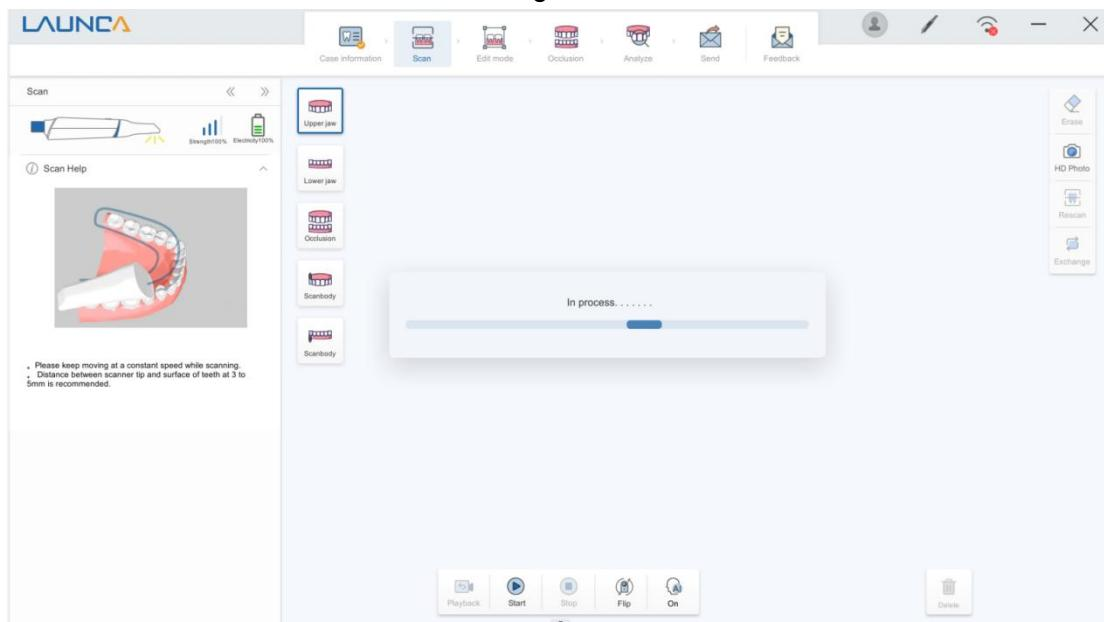
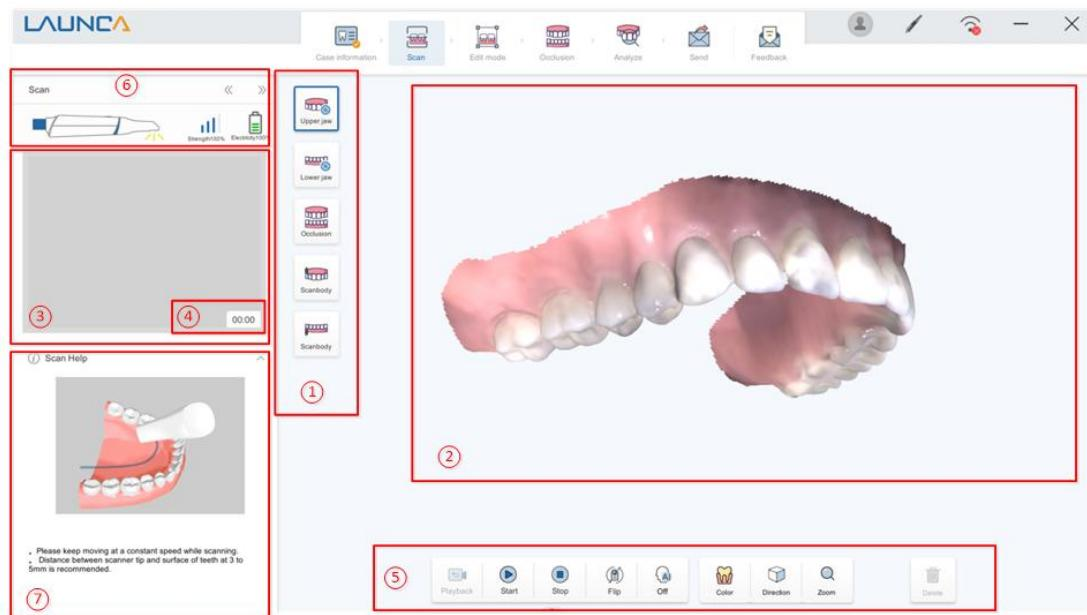

Fig. 4-7 The Scan window is Loading
Fig. 4-8-1
After confirming the case information, click "Scan" in the Scanning workflow to start the scan window. Fig. 4-7 shows that the scan window is loading. After the scan window starts, it will switch to the interface as shown in Fig. 4-8-1.
3	2D Image Window: This window is displayed in real time during scanning. When scanning does not start, the window is in grey rectangular shown in the area ③ in Fig. 4-8-1.
- 1) Take out the intraoral camera, select one part to scan from the scanning target bar (upper jaw, upper scanbody, lower jaw, lower scanbody, buccal). Press the "Start" button on the handpiece, the LED lights at the front of the camera will begin to flash. Place the camera into the patient's mouth. You can observe the mouth in real time from the 2D image window of the area ③ in Fig. 4-8-1.
- 2) Point the scanning window to the teeth to be scanned, and observe the teeth in the 2D image window in the area ③ of Fig. 4-8-1. Wait for the window border to turn yellow and keep the camera stable for two seconds, the scanning will start automatically, as shown in Fig. 4-11.
- Red: Indicates interruption of scanning due to losing track of camera position. Possible reasons include: ① No camera calibration file. Abrupt change in position of intraoral camera (i.e., the intraoral camera moves too quickly).
- Click the "Stop" button on the user interface (in the area ⑤ of Fig. 4-8-1) to finish the scanning.
- 6) Select another scan target for the next scanning. The steps are the same as in steps 2) - 6). Repeat steps from 2) to 6) and ensure the items in the scanning target bar are all toggled in green, as shown in area ① of Fig. 4-8-1. This indicates that the data of all parts has been scanned and post processed. Thus, the scanning process has been completed.